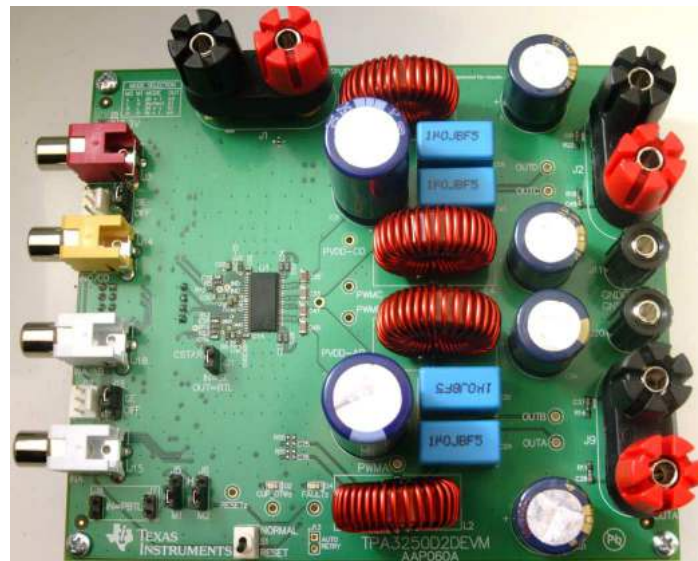

Figure 1. TPA3250D2EVM
- Check that jumpers are in their default state as shown in Figure 1 for stereo **BTL** operation: